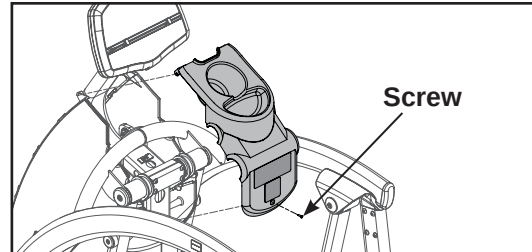

Figure 3
A. Using a Phillips screwdriver, remove the screw securing the top cover. See Figure 3.